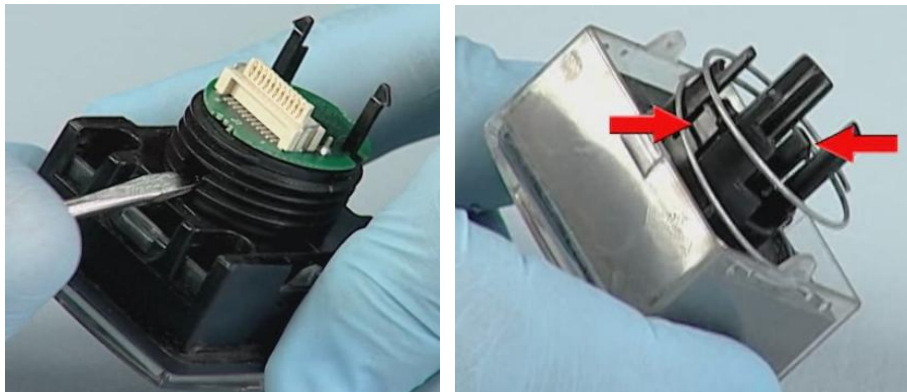

Figure 2
3. Next you need to separate the lens cap/lens holder portion of the button assembly into two separate parts using a small pocket flat screwdriver. Using light pressure take your flat screwdriver and push down on the retaining clips in the side of the bezel assembly. Be careful not to apply too much pressure to the retaining clips, this could cause them to break. If more pressure is needed, press on the visible area of the Lens Cap to force it out of the Bezel/Switch body. See Figure 2.